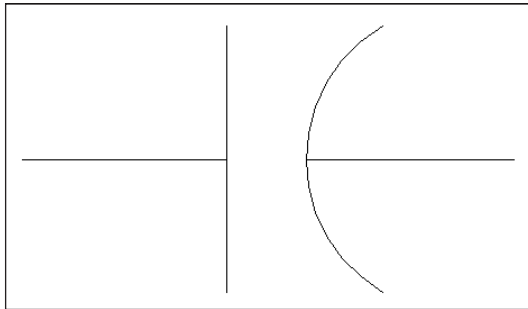

Figure 10-23: The completed capacitor symbol
5. Save your drawing. It should look like Figure 10-23.